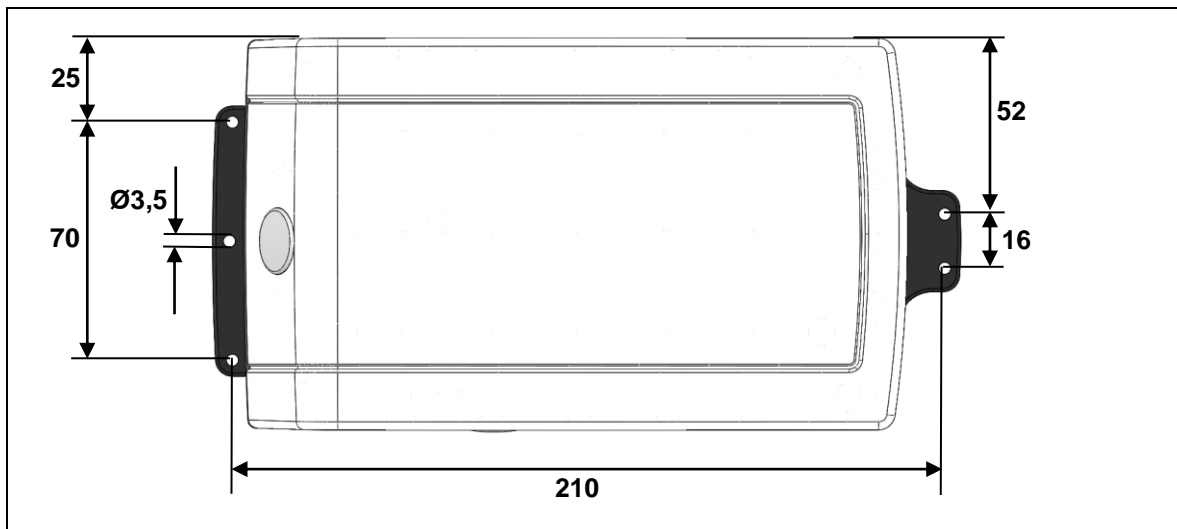

Figure 5 Drilling dimensions (example): Mounting points on the HE150, (in mm)
- The drilling dimensions shown in Figure 5 only illustrate an example and are not necessarily authoritative for all applications.